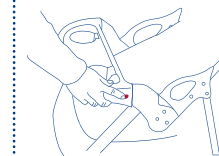

Fig. 12c
**To open the front child tray:** press inward on left side tray release button and rotate upward on the tray. Please see figure 12c. Please note that you may remove the tray completely by depressing the buttons on each side while pulling forward on the tray.